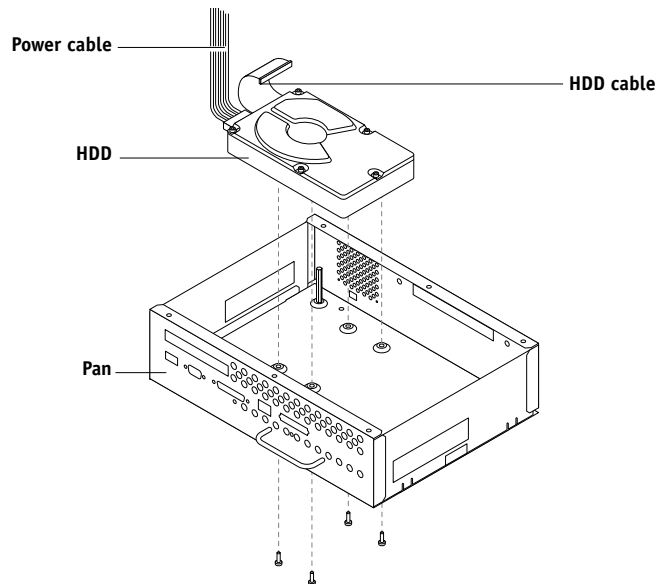

FIGURE 4-13 Replacing the HDD
5. With the pan on its side, remove the four screws on the bottom of the pan that secure the HDD (see Figure 4-13).
3. **With the pan on its side, align the four holes in the bottom of the HDD with the holes in the bottom of the pan and replace the four screws you removed earlier (see Figure 4-13 on page 4-20).**